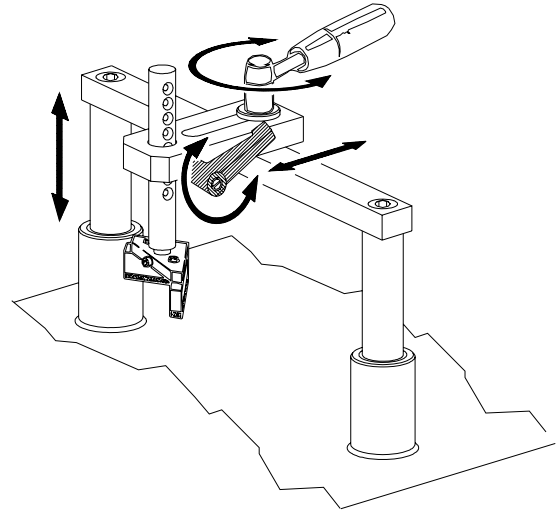

figure 14
- Loosen the top handle (see fig.14) that locks the clamp, which holds the pressure pad bar. This will permit its movement forward or backward. You will want the pressure pad directly over the V-nail inserting point.